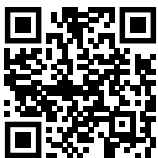

Fig. 85
- Open Liebherr SmartMonitoring Dashboard. (see Fig. 85)